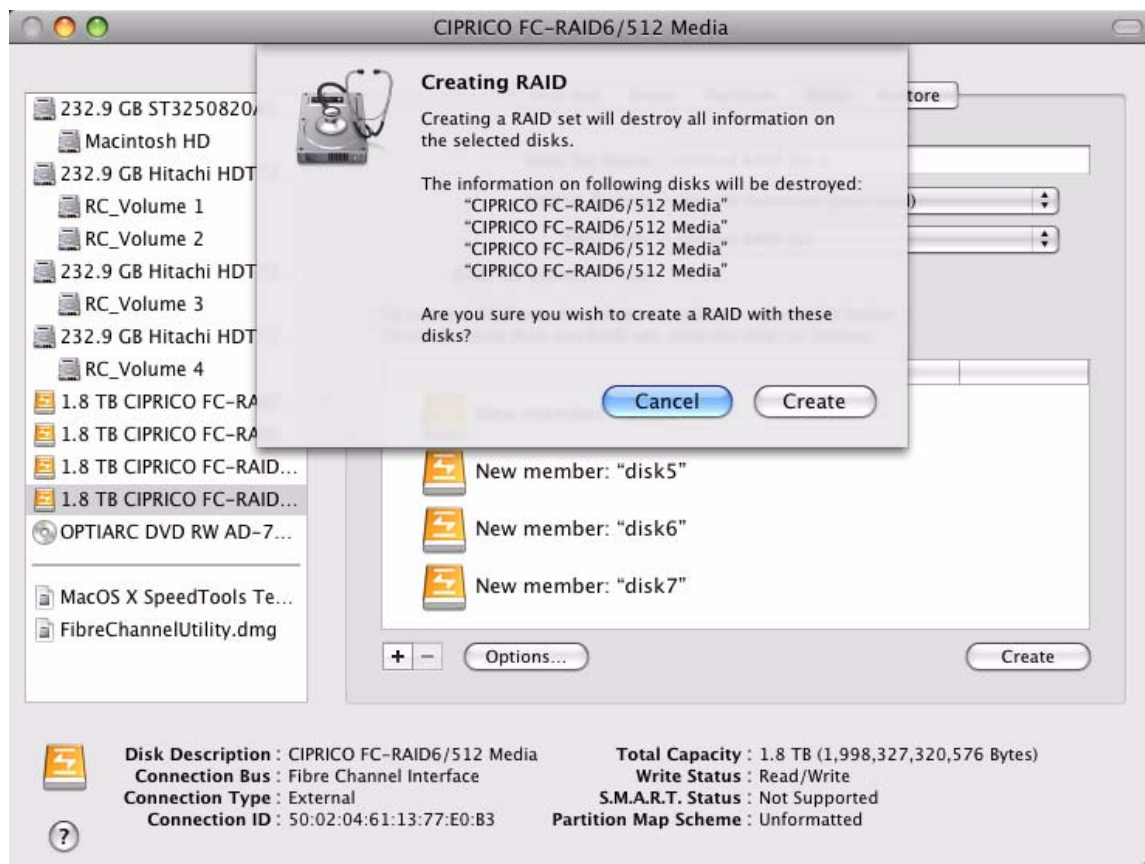

FIGURE 6-13. Creating RAID Warning Screen, Displayed Before a RAID Set is Created.
11. A *Creating RAID* screen appears. It warns about destroying data when a RAID set is created. To continue with creating the RAID, click the **PARTITION** button on this screen. See Figure 6-13.